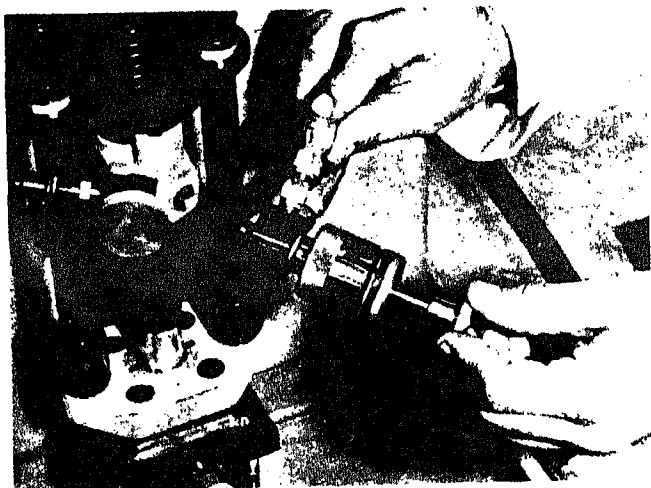

Fig. 6-1-79. ST-708 in inlet connection
17. Install connector and ST-708 tool into ST-726 Body inlet by screwing in the large knob section. Fig. 6-1-79.